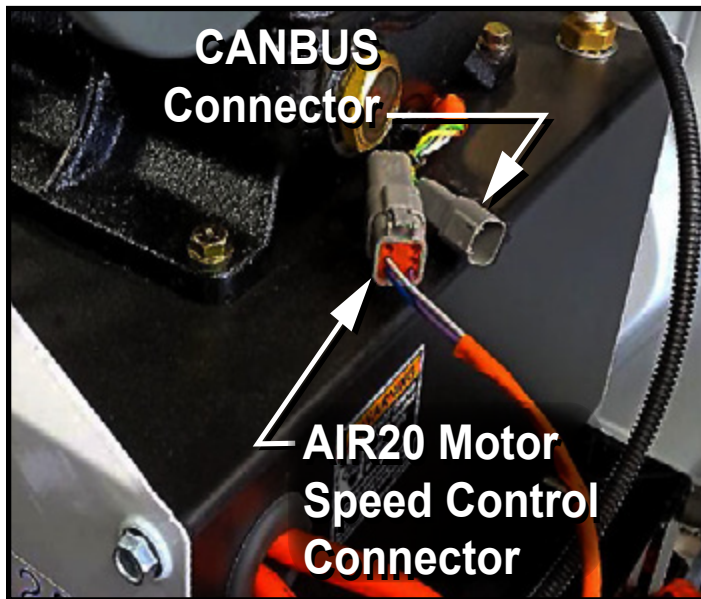

Figure 1-3
7. Signal wire connector from the toggle switch connects to the motor speed control plug on top of the EPEQ® AIR20 - near the oil level sight glass. (See *Figure 1-3*)
12. If used, connect the CANBUS plug from the wire harness into the CANBUS connector ON the compressor to enable communication with the ELiMENT™ Battery. See (Figure 1-3)
2. Remove the eight (8) cover screws holding the cover in place, and remove the cover. (*See Figure 1-3*)